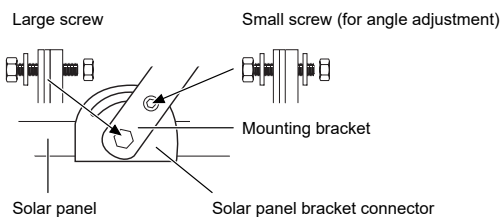

Fig. B2: Solar panel bracket installation (No: 3156507)
3. No: 3156507: Install the solar panel mounting bracket on the solar panel using the supplied screws, bracket connectors, washers and nuts. Refer to Fig. B2 for details.